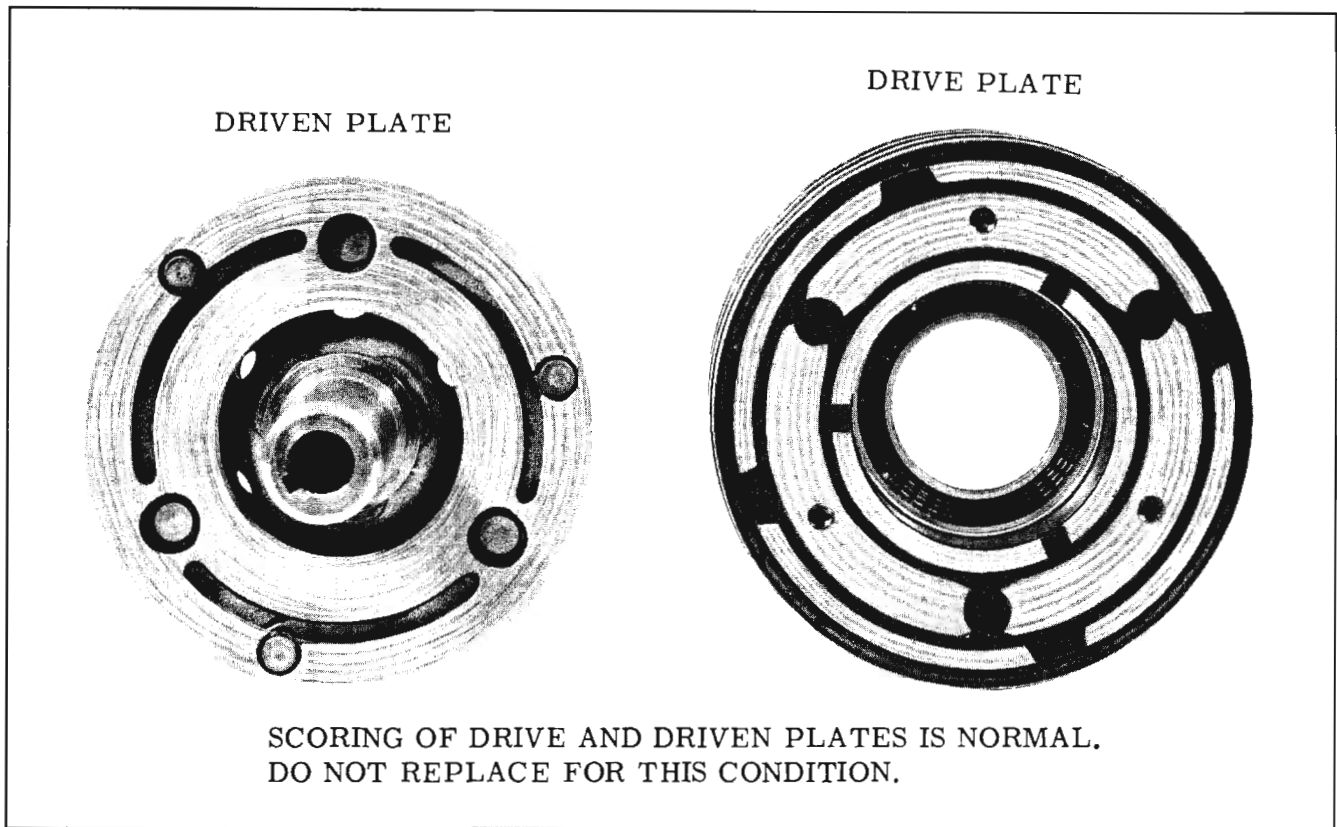

Fig. 15-43 Normal Clutch Plate Wear
6. Inspect driven plate for cracks or stresses in the resilient drive. Do not replace driven plate for a scoring condition. (Fig. 15-43).